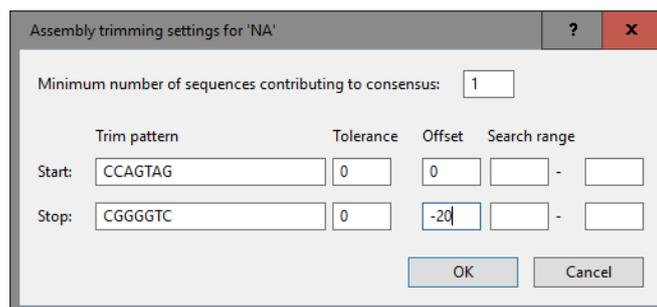

Figure 14: The *Assembly trimming settings* dialog box displaying the trimming settings for the NA sequence example data.
21. Double-click on the **<Edit>** button for experiment **NA** and enter the trimming settings as specified in Figure 14. When completed, press **<OK>**.